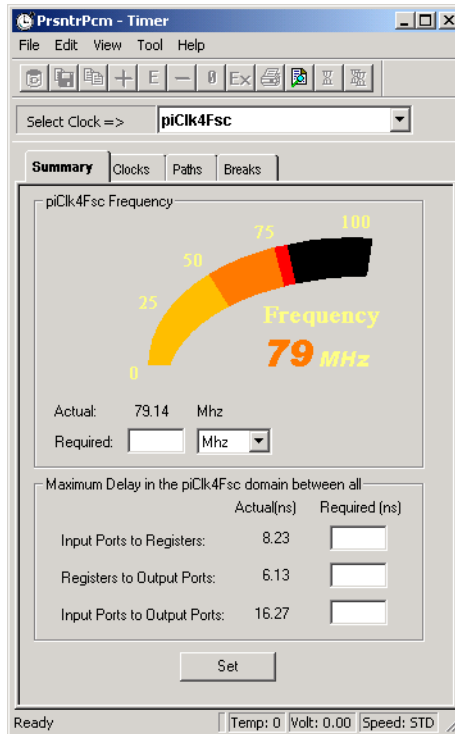

Figure 3-4. Starting Timer
2. **From Designer, start Timer.** Click *Timer* in the Designer Flow Window. Timer starts, as shown in Figure 3-4